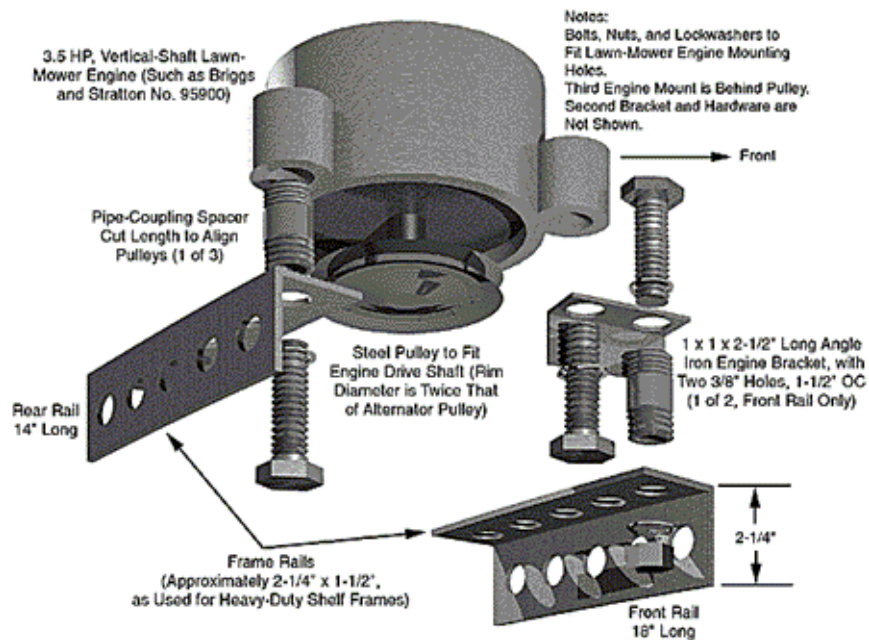

Figure 4—A pictorial of the engine mounting details.
Figure 2—One of the two small engine brackets is above the pipe-coupling spacer. The engine is at the upper right, the front rail at lower left. See Figure 4 for mechanical details. Photo courtesy of James St. Laurent.
Most lawn-mower engines seem to have the same three reinforced mounting holes on their base. (See **Figure 4.**) Two of the three holes line up with the front, so the long rail goes there. The third hole is at the "rear" and the shorter rail bolts to it. The engine mounts—via two angle-iron brackets, bolts and spacers—to the narrow flange of each main rail; the wide flanges become the vertical sides of the Pup's base. (Refer to **Figure 2.**)
Motor (1)—(See **Figure 4.**) After searching for a used engine, I bought a new, no frills lawn mower (for \$99) and kept the engine. Recent models have a safety lever connected to a KILL switch on the engine that grounds a *neutralizing wire* to stop the engine. This neutralizing wire connects to the control box ignition switch and protection circuit.
Motor Brackets (2)—Heavy-duty 1×1-inch angle iron. See **Figure 4**.